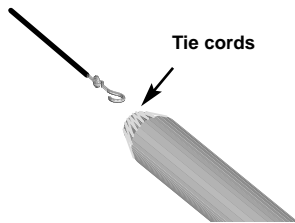

Figure 12. Screen top with cable from crane
2. For larger screens, attach the hoist or crane cable to the throughbolt in the top of the screen tube. Refer to Figure 12. For smaller screens, the tube can be supported by a rolling dolly instead of a crane.